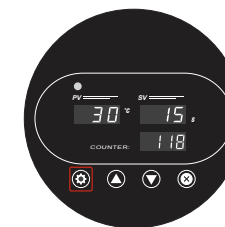
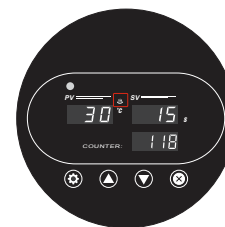

Fig. 7
Fig. 8
7. Press Set ❶ button once more (Fig. 7) to record all control panel settings. The platens start heating, and the heating icons are now displayed on the screen (Fig. 8).